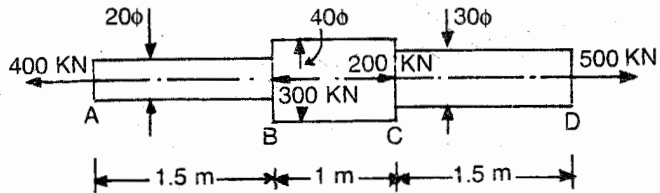

Fig. 1.44
- (15) A steel bar 4 meters long is made up of three portions, $AB = 1.5$ meter long and 20 mm dia, $BC = 1$ m long and 40 mm dia and portion $CD = 1.5$ meter long and 30 mm dia is loaded as shown in figure 1.44. Determine the total elongation of the bar. (Ans $\delta l = 17.62$ mm)